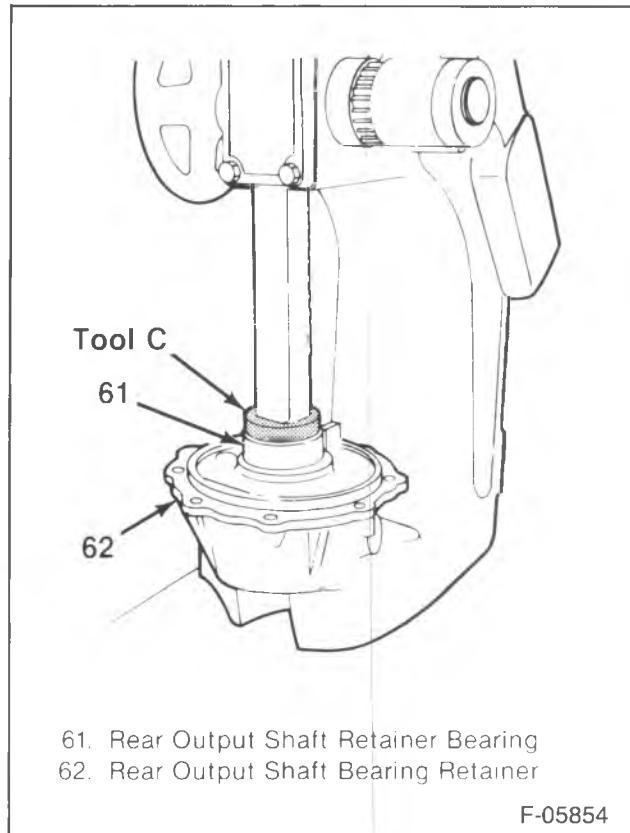

Figure 16—Rear Output Shaft Retainer Bearing Installation
10. Grease in the pilot bore of the rear output shaft (26).
11. Roller bearings — 15 each (25).
12. Thrust washer (24).
13. New snap ring (23) in the bore.
14. New bearing (61) in the retainer housing (62), using Tool-C (figure 16).
15. Retainer housing (62) onto the output shaft assembly (26).
16. Retainer housing and output shaft to the case (19).
17. Retainer bolts (6).